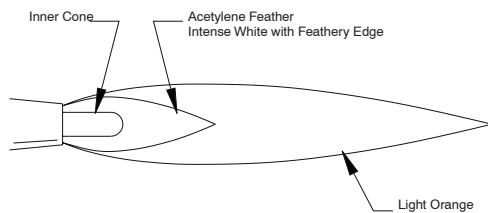

Figure 4.2. Carburizing Flame
2. Slowly open torch oxygen valve. Flame will be carburizing (Figure 4.2).